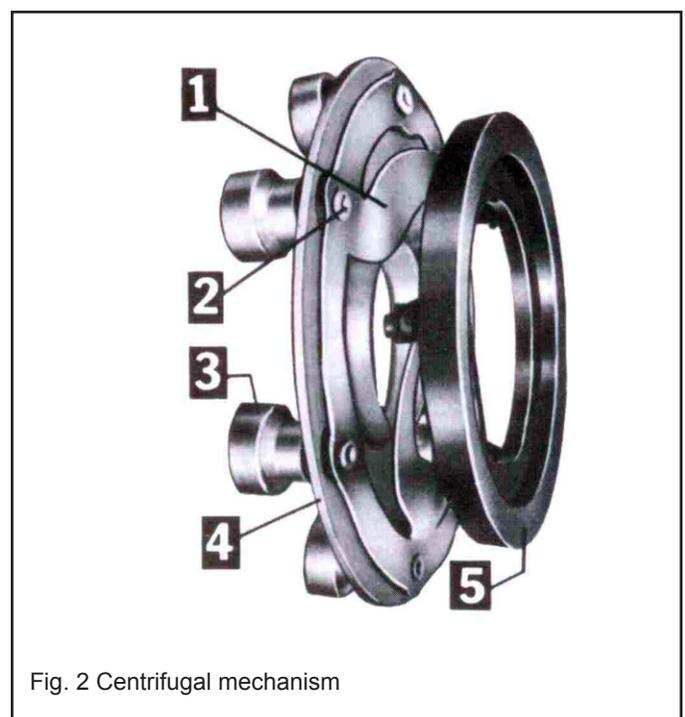

Fig. 2 Centrifugal mechanism
The Torq Syncrosnap® Centrifugal switch achieves these objectives of the “ideal” design. It is unique in its simplicity of construction and friction-free operation. Its one moving part is a conical formed spring disk (1) as shown in Fig. 2. To the base section (2) of this disk are mounted calibrated weights (3) which are supported by a steel retaining plate (4) designed to be press fit on the rotating shaft. The actuating arms of the spring disk (1) are connected to a free-floating insulating spool (5). Clearance is provided between the spool and the shaft to avoid friction which could result from dirt, rust, or other interference. By reducing frictional components to a negligible minimum, uniformity of operation is assured and obtained.